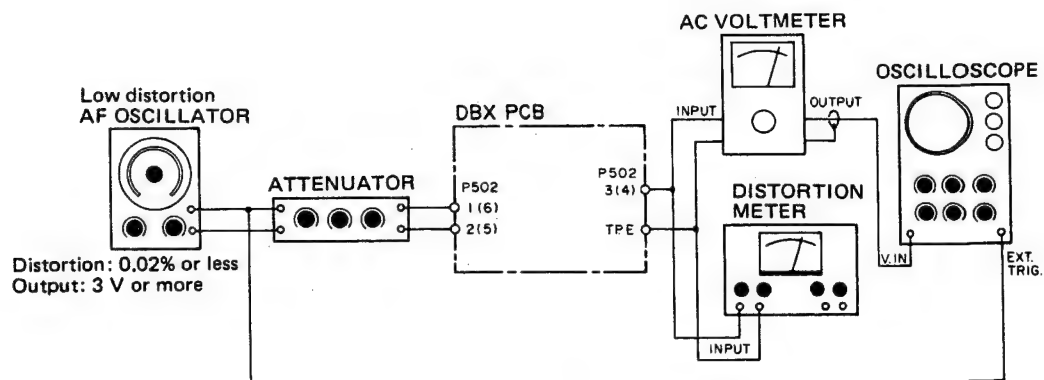

Fig. 5-12
2. Make the Fig. 5-12 connections, then feed a 1 kHz/-8 dB (308 mV) input signal to the INPUT terminal. Adjust R55/R65 (DECODING LEVEL) so that AC voltmeter reads -8 dB (308 mV).
3. Check that when the input signal is 100 Hz/-8 dB (308 mV), then 10 kHz/-8 dB, the output signal from 3(4) terminal (OUTPUT) deviates by -1 dB ± 0.5 dB, then +5 dB ± 0.5 dB from -8 dB (reference), respectively so that output, as a voltage value, should be 652 mV to 731 mV for 100 Hz, and 1.30 V to 1.46V for 10 kHz.